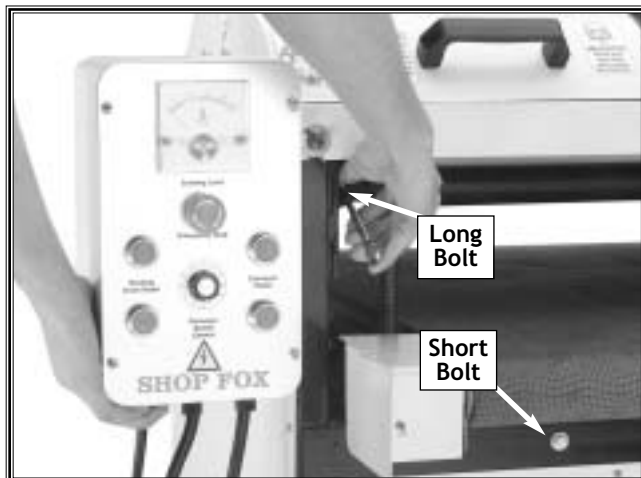

Figure 14. Short and long bolt locations.
1. Remove the L-brackets, bolts, and washers, and reinstall the two short bolts ($\frac{5}{16}$ "-18 x $\frac{1}{2}$ ") and washers into the sander. See **Figure 14**.
3. Tighten the bolts. See **Figure 14**.